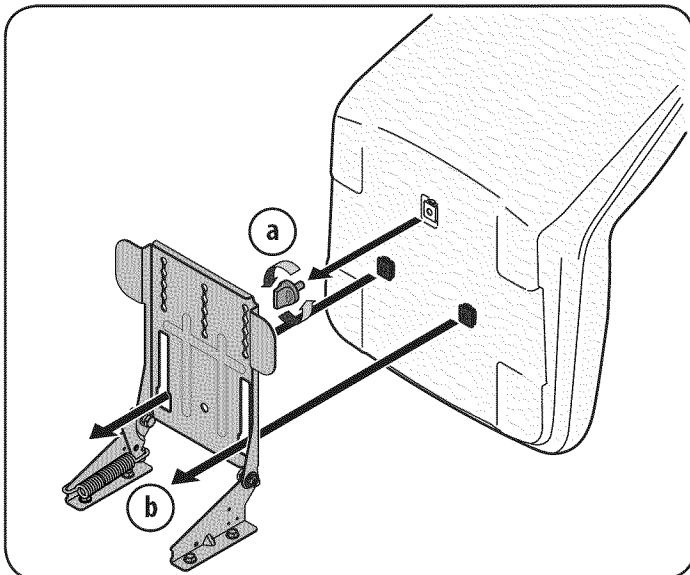

Figure 4
1. As already instructed, remove the seat adjustment knob installed by the factory in the bottom of the seat. See "a" in Figure 4.
2. Align the seat over the seat pivot bracket as shown in Figure 4 and fit the seat onto the pivot bracket inserting the two tabs on the seat bottom into the slots on the pivot bracket.